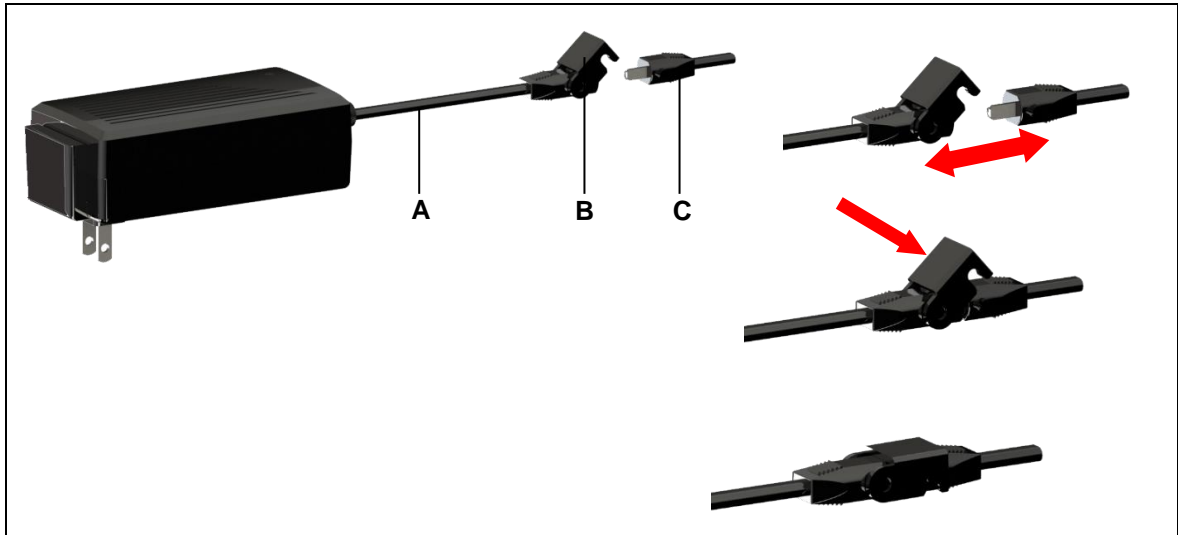

Figure 11 Connection for drive or control unit
- 2 Open the pull-out protection (Figure 11).